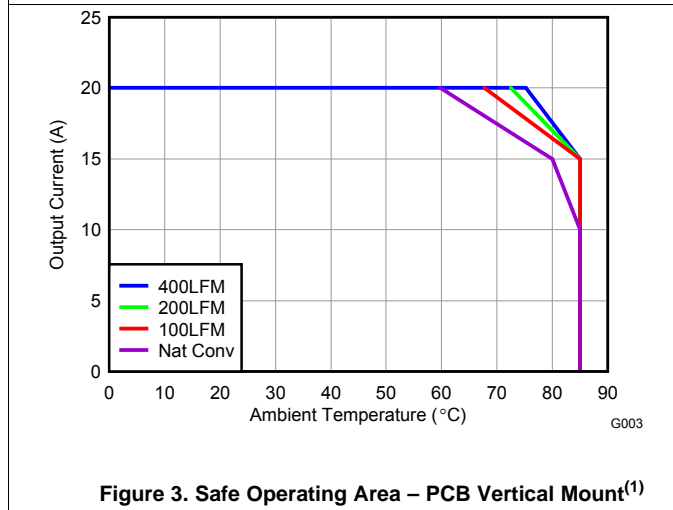
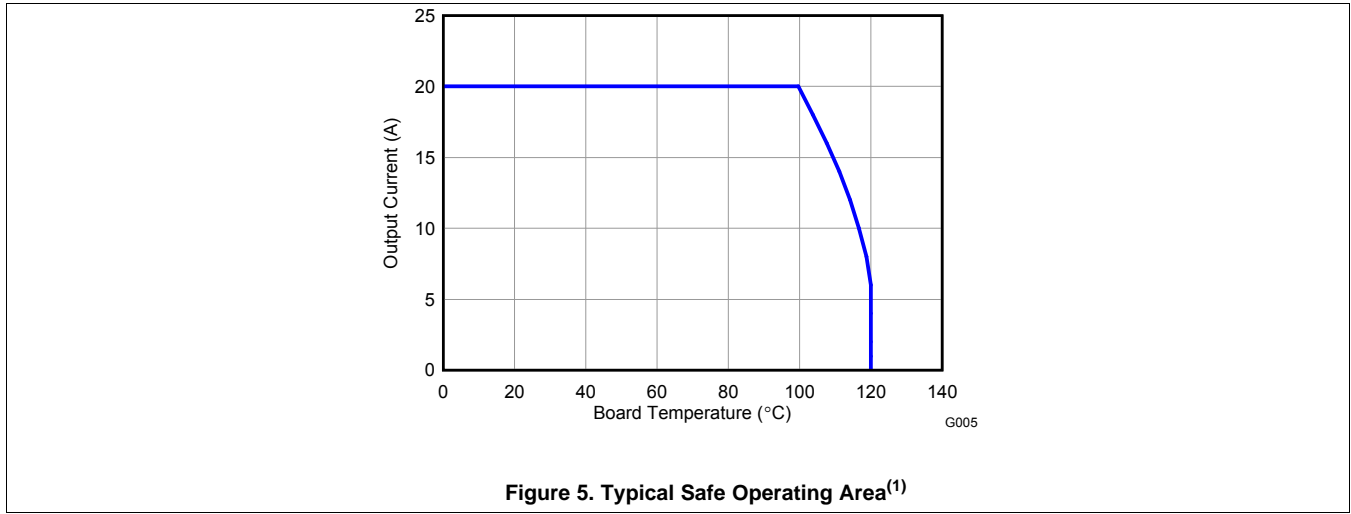

Figure 3. Safe Operating Area – PCB Vertical Mount⁽¹⁾
Figure 5. Typical Safe Operating Area⁽¹⁾
The SOA curves in the CSD86330Q3D data sheet provides guidance on the temperature boundaries within an operating system by incorporating the thermal resistance and system power loss. **Figure 3** to **Figure 5** outline the temperature and airflow conditions required for a given load current. The area under the curve dictates the safe operating area. All the curves are based on measurements made on a PCB design with dimensions of 4" (W) × 3.5" (L) × 0.062" (T) and 6 copper layers of 1 oz. copper thickness.